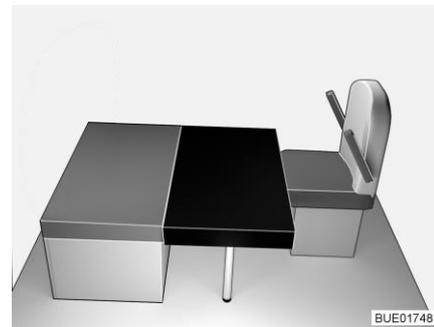

Fig. 163 After conversion
- Place the rectangular additional cushion on the table (in front of the seat cushion of the bench, see Fig. 163).